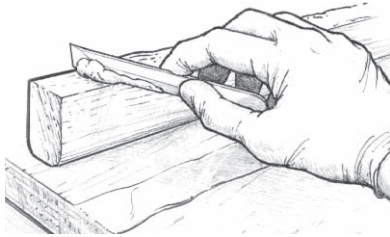

Figure 10 Apply thickened epoxy to one of the bonding surfaces.
2. **Apply thickened epoxy to one bonding surface.** Modify the resin/hardener mixture by stirring in the appropriate filler until it becomes thick enough to bridge any gaps between the mating surfaces and to prevent “epoxy-starved” joints. Apply enough of the mixture to one of the surfaces so that a small amount will squeeze out when the surfaces are joined together with a force equivalent to a firm hand grip (Figure 10).